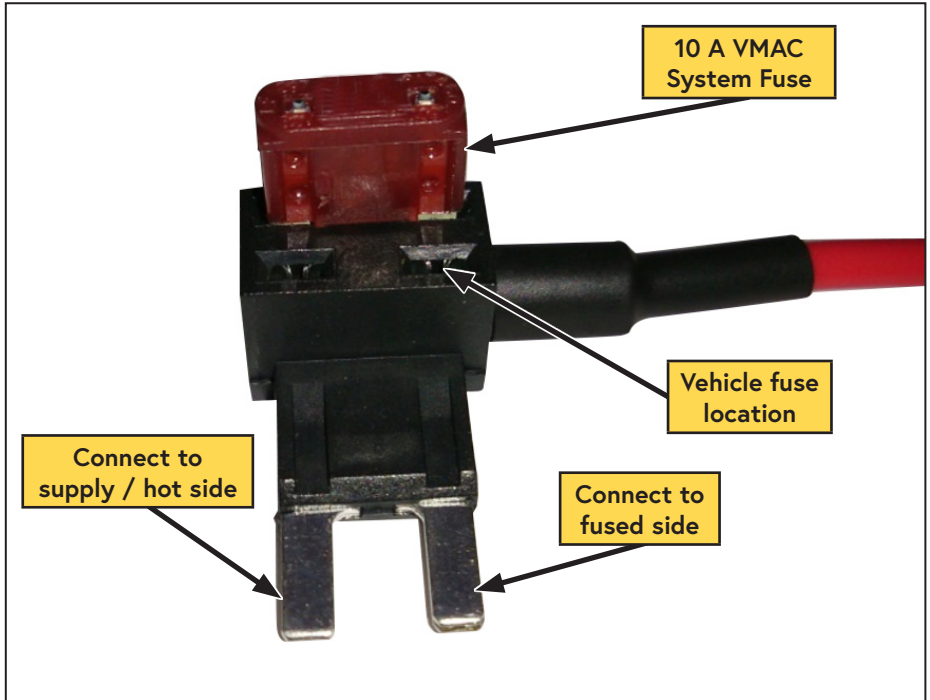

Figure 38 — VMAC fuse tap (for 2012 – 2013 vehicles only)
- Install the VMAC fuse tap. Ensure the populated fuse in the fuse tap for the VMAC system is obtaining power from the supply/hot fuse connection. Plug the vehicle fuse back into the empty (lower) fuse tap socket and ensure the supplied 10 A fuse is in the upper socket. Ensure the fuse is seated properly (Figure 38).